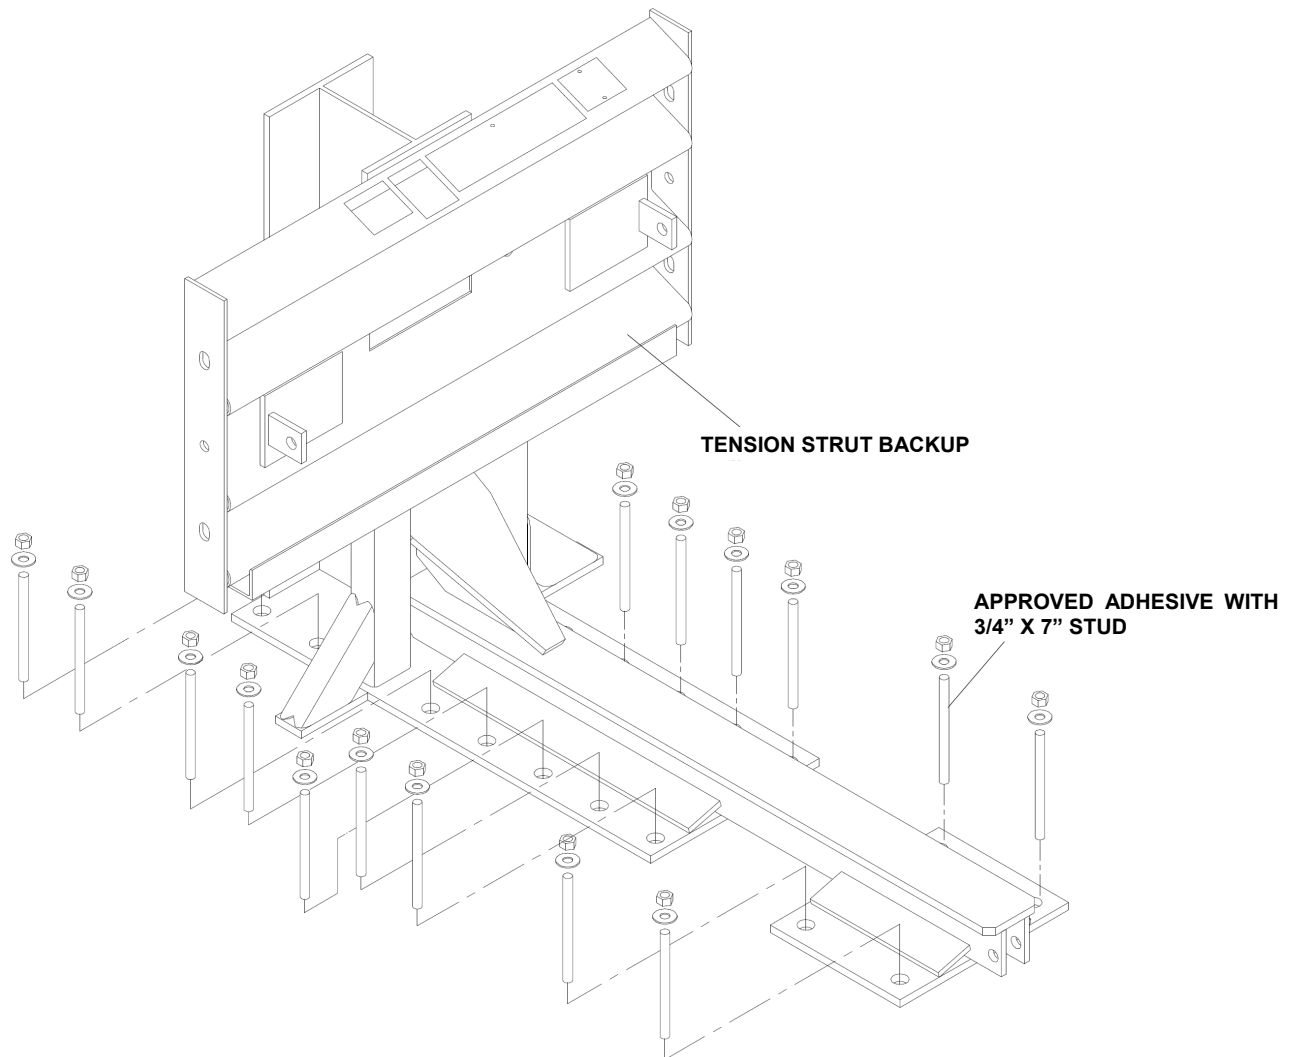
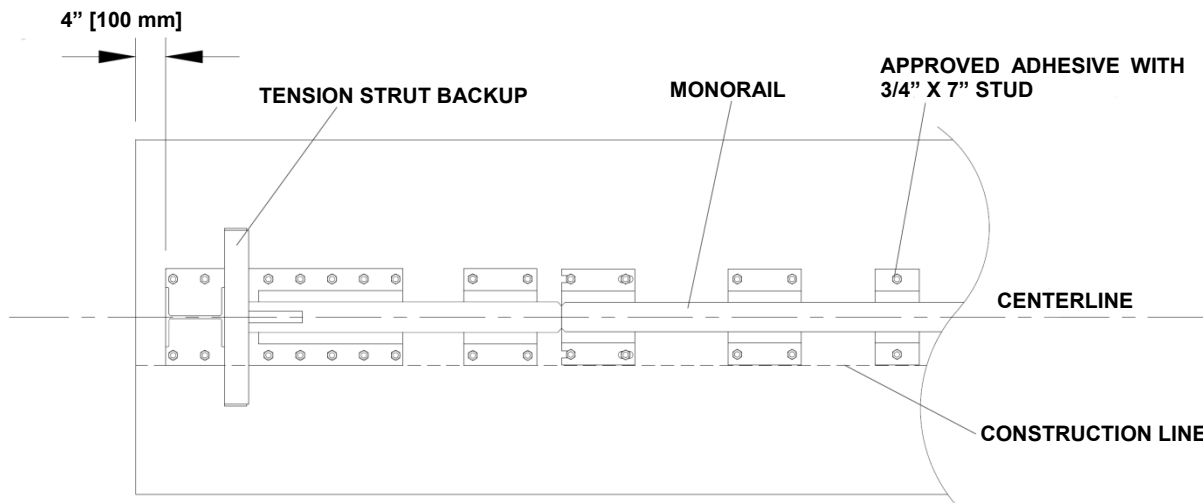

Figure 13
Figure 15
See Figure 13 (showing Backup Assembly) and Figure 15 (showing Monorail deployment). Also refer to the drawing package and the Approved Adhesive section (p. 10).
A) Tension Strut Backup Assembly (Figure 13)
Locate the Backup and Monorail on the pad with the side of the Monorail on the construction line (Figure 15). Verify that applicable Transition Panels fit properly before anchoring the Backup. Drill anchor holes in foundation using the Backup as template. Anchor the Backup to the concrete foundation using an approved adhesive supplied with the QuadGuard® Elite (p. 10).
Locate the Monorail on the construction line as shown in the Monorail Assembly drawings. Drill 5 1/2" [140 mm] deep anchor holes using the Monorail as a template (Figure 15). Do not drill through pad. Anchor each Monorail section using an approved adhesive. See below and approved anchoring instructions (p. 8). It is important to attach and align each segment of Monorail starting from the back and working toward the front of the system ($\pm 1/4"$ [6 mm]).